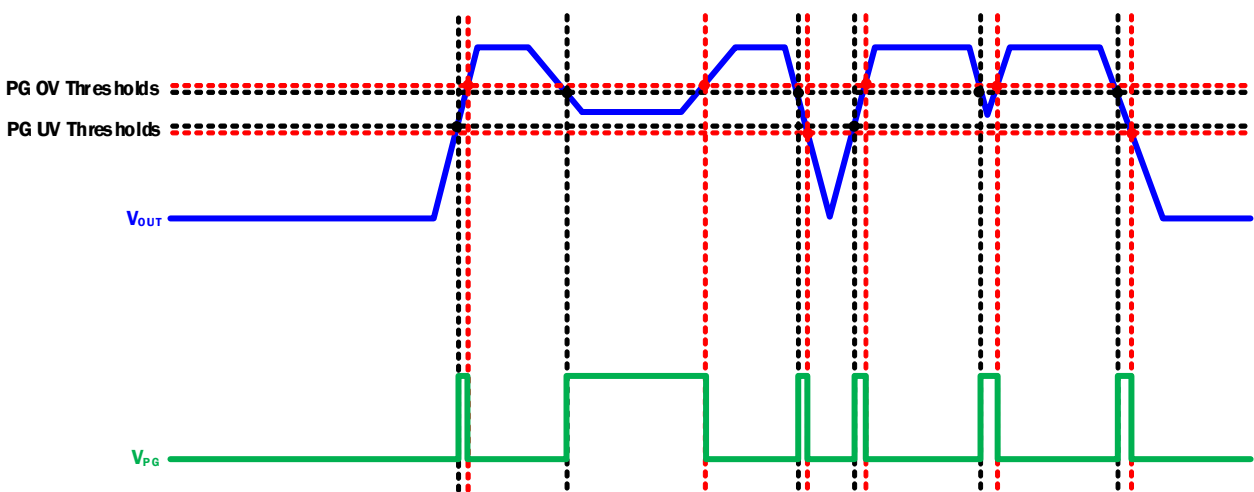

Figure 138. PG Operation
When the output voltage is below the PG Undervoltage (UV) thresholds, the fast-start up circuitry is activated to bring  $V_{OUT}$  within the  $\pm 10\%$  window. When the output voltage is above the PG Overvoltage (OV) thresholds, a  $1\text{k}\Omega$  pull-down resistor connects  $V_{OUT}$  to GND to discharge the output capacitor and bring the output voltage back within the  $\pm 10\%$  window. Figure 138 illustrates the PG operation.